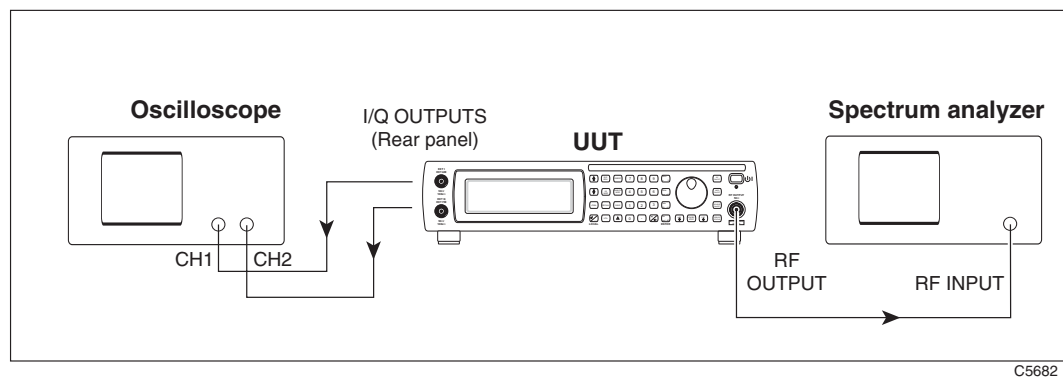

Fig. 6-5 Real time baseband test setup
1 Connect the test equipment as shown in Fig. 6-5.
- 1 Connect the test equipment as shown in Fig. 6-5.